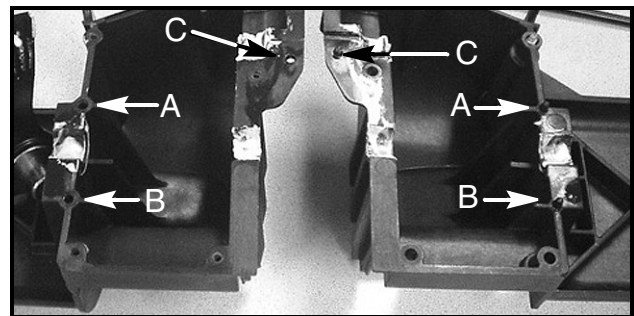

FIGURE 18
27. Carefully align the RH housing onto the LH housing subassembly ensuring that the RH housing's three guide pins align with the three LH housing's holes. See Figure 18.